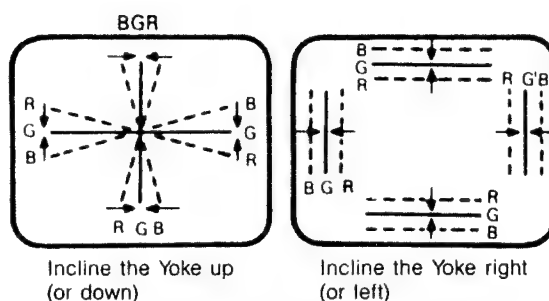

Fig. 14 CIRCUMFERENCE CONVERGENCE
3. Tilt front of the deflection yoke up or down to obtain better convergence in circumference. (See Fig. 14) Push the mounted wedge into the space between picture tube and the yoke to hold the yoke temporarily.
5. Tilt front of the yoke right or left to obtain better convergence in circumference. (See Fig. 14)